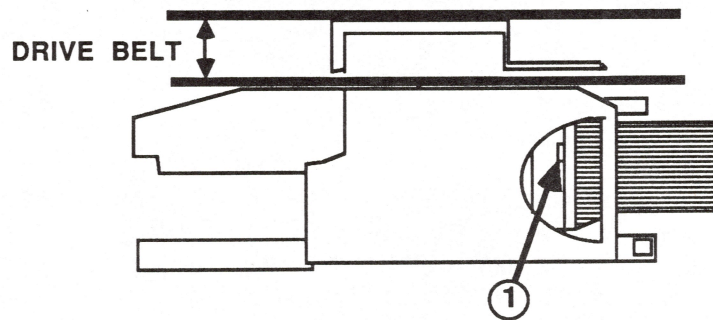

FIGURE 11
2. Insert the flathead screwdriver into the notch on the flexible cable connector (see Figure 11, #1). Gently turn the screwdriver and the connector will pop out about 1/4 inch.
3. Push the carriage assembly to the middle. Insert the other end of the flexible cable into the connector (see Figure 11, #1). Push the connector in.